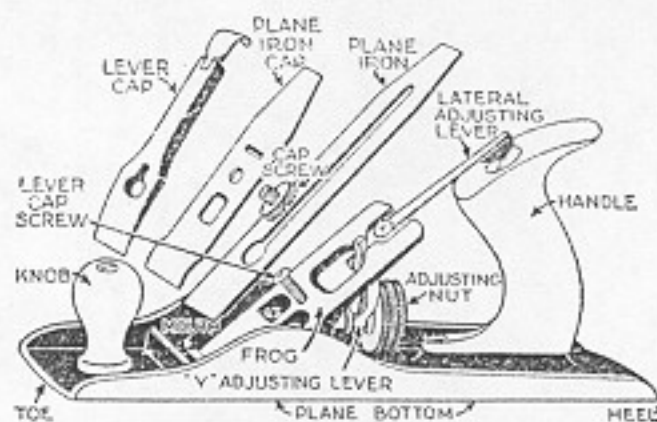

Fig. 84. Sectional drawing of a plane.
34. Adjusting a Jack Plane. 1. The sectional drawing of the plane, Figure 84, and its various parts, should be studied by the worker to see how each part fits and what it does.